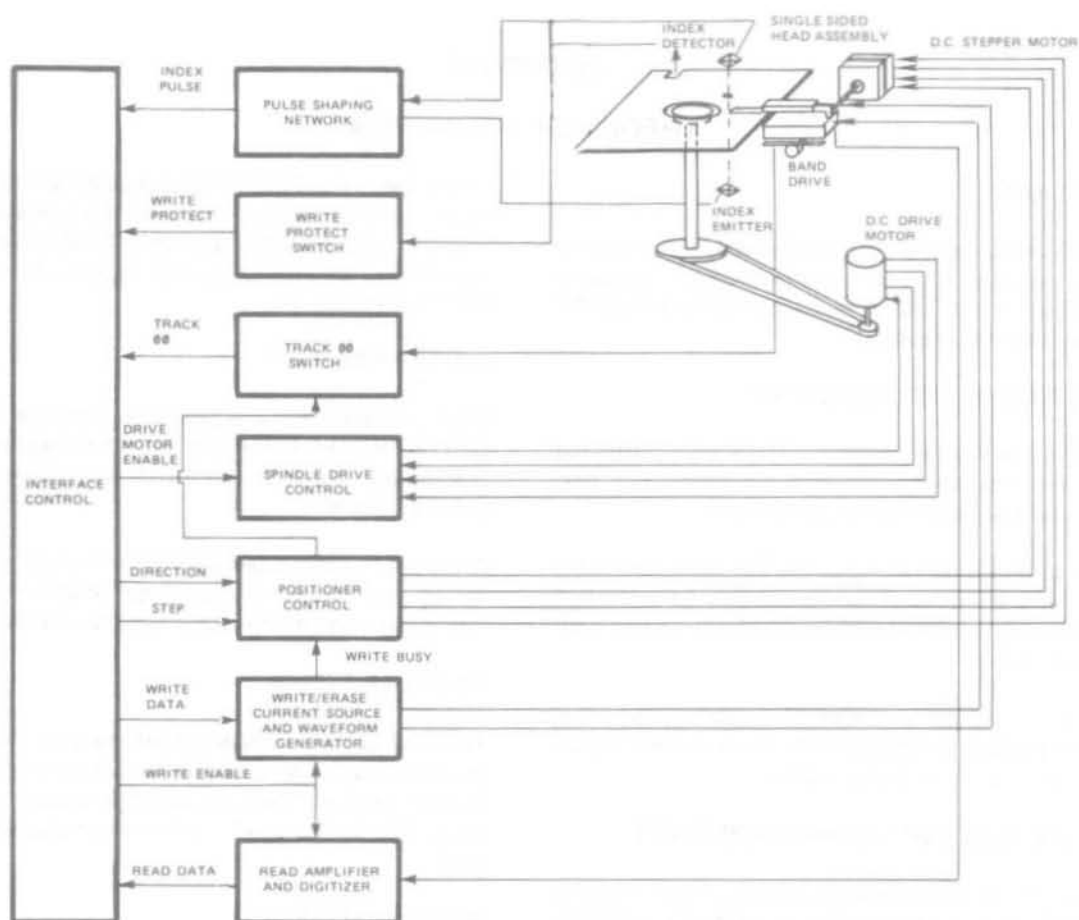

FIGURE 5. FUNCTIONAL BLOCK DIAGRAM
- 3. The Jumper Wire between pin 32 of J1 and the DS4 connection (see Figure 5) is used on all Drives.
Figure 5 is a functional block diagram of the Disk Drive and should be referred to in conjunction with the following discussion:
All signals required to control the data electronics are provided by the user system and are shown in the Block Diagram (Figure 5). These control signals are:
Referring to Figure 5, it can be seen that the Write Electronics consists of a Write/Erase Current Source and Write Waveform Generator, Erase Current Source and Trim Erase Control Logic.